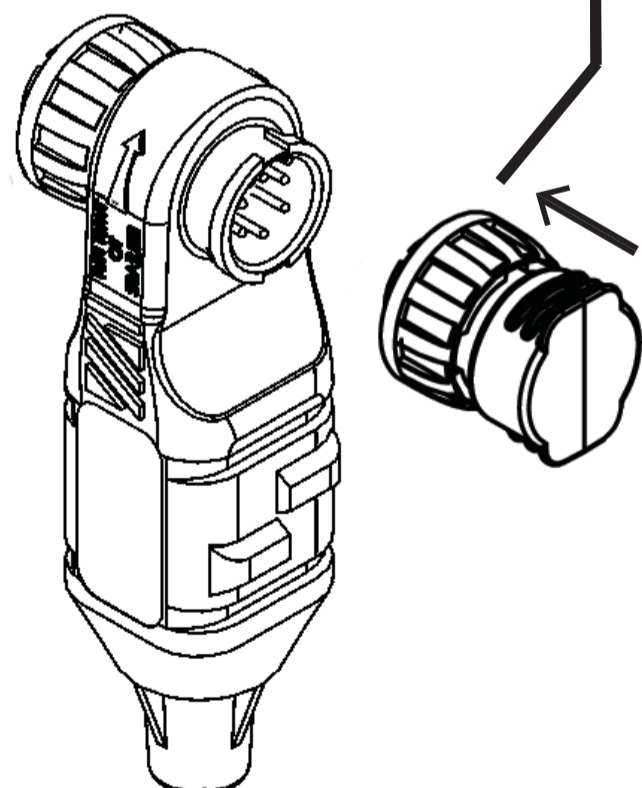

Figure 2 - CAP ASSEMBLY
1) Refer to Figure 2. Notice that the connectors are in line prior to inserting one into the other. (In this case, the End Cap is going to be inserted into an EGT Probe.)